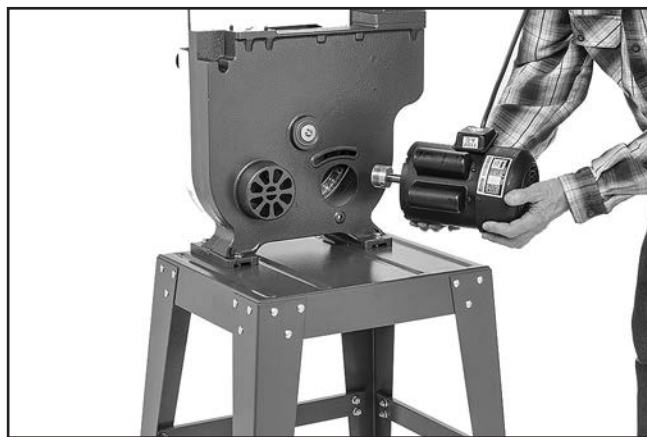

Figure 14. Placing motor on body.
1. Place motor into motor mounting area on bottom of main body, as shown in **Figure 14**.